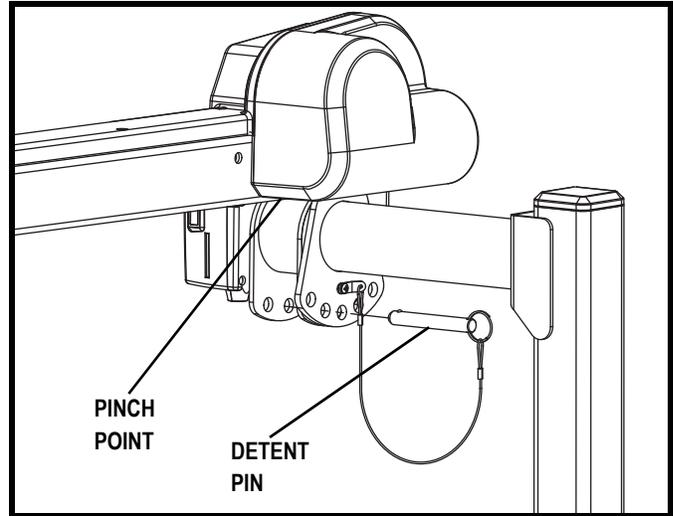

Figure 4. Securing the Boom Arm
NOTE: The angle of the boom arm can be adjusted to accommodate certain height limitations. See figure 4.
2. Remove the detent pin located between the boom arm and upper post. Guide the boom arm upward or downward to the desired position. See figure 4.
3. Reinsert the detent pin into the top of the upper post to secure the boom arm in place. See figure 4.